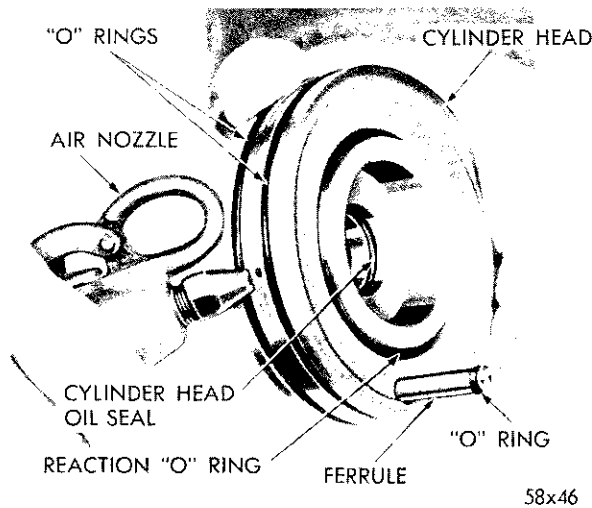

Fig. 33—Removing Reaction Ring Seal from Cylinder Head
(1) Remove the two “O” rings in the two outer grooves in the cylinder head.
(2) Remove the lower reaction “O” ring in the groove in the face of the cylinder head. Apply air pressure into the oil hole located in the groove between the two “O” ring grooves (Fig. 33).